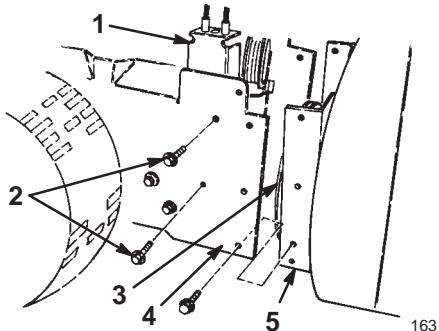

Figure 2
1. Remove the two flange-head bolts that secure the idler pulley assembly to the engine frame, and remove the idler pulley assembly (Fig. 2).
2. Align the holes in the auger/impeller housing with the holes in the engine frame (Fig. 2).
3. Route the auger/impeller drive belt around the impeller pulley (Fig. 2).
5. Install the idler pulley assembly, aligning the idler pulleys with the belts (Figs. 2 and 31).